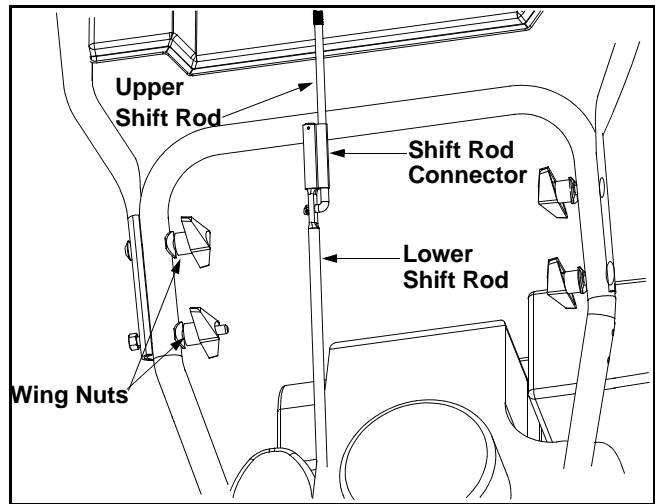

Figure 3
- Raise the upper handle assembly until it locks over the lower handle. See Figure 3.
- Secure the upper handle and lower handle with the two plastic wing knobs, cupped washers and carriage bolt (eyebolt on the left side) previously removed. See Figure 3.
- Slide the connector down over the end of the lower shift rod. See Figure 3. Tap the connector until it **locks** on the lower shift rod.